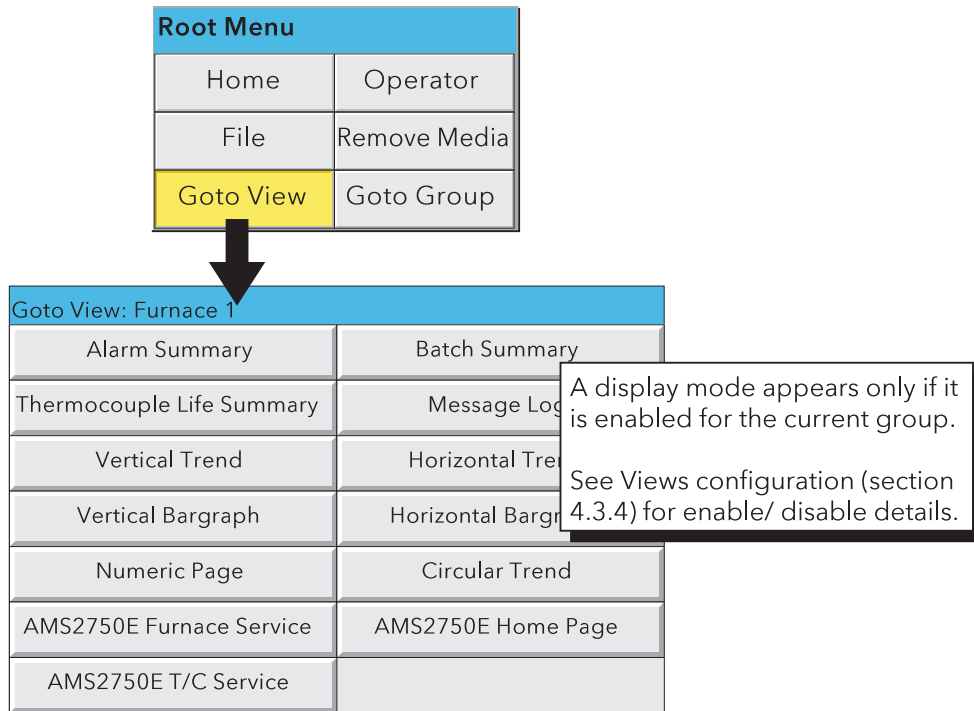

Figure 3.2.1a Root menu with Goto View sub menu
- Go to View Allows the user to select the display mode for the current group, as shown in figure 3.2.1a. Display modes not enabled for this group in Config/Views configuration page (section 4.3.4) do not appear. As an alternative, display modes can be scrolled-through using the up and down arrow navigation keys.